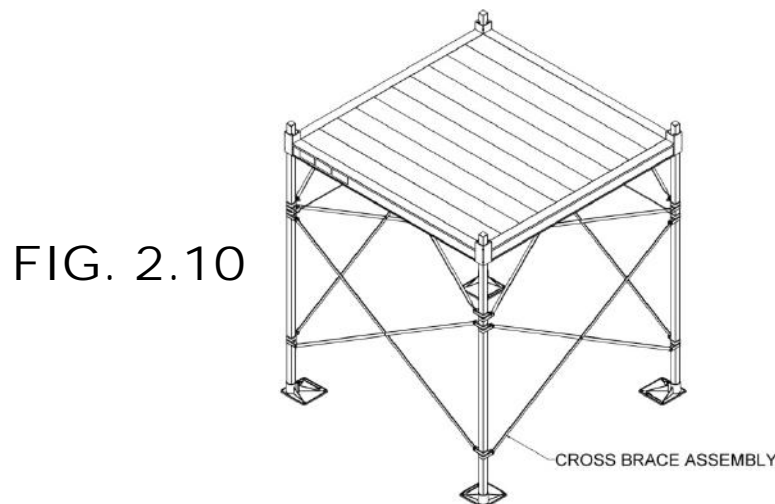

FIG. 2.10
- 2.7.1. Install UNIVERSAL CROSS BRACES on all support tubes when the walking surface is 72" or more above the ground. Cross braces are normally installed on all four sides (FIG. 2.10) unless two platforms are connected.